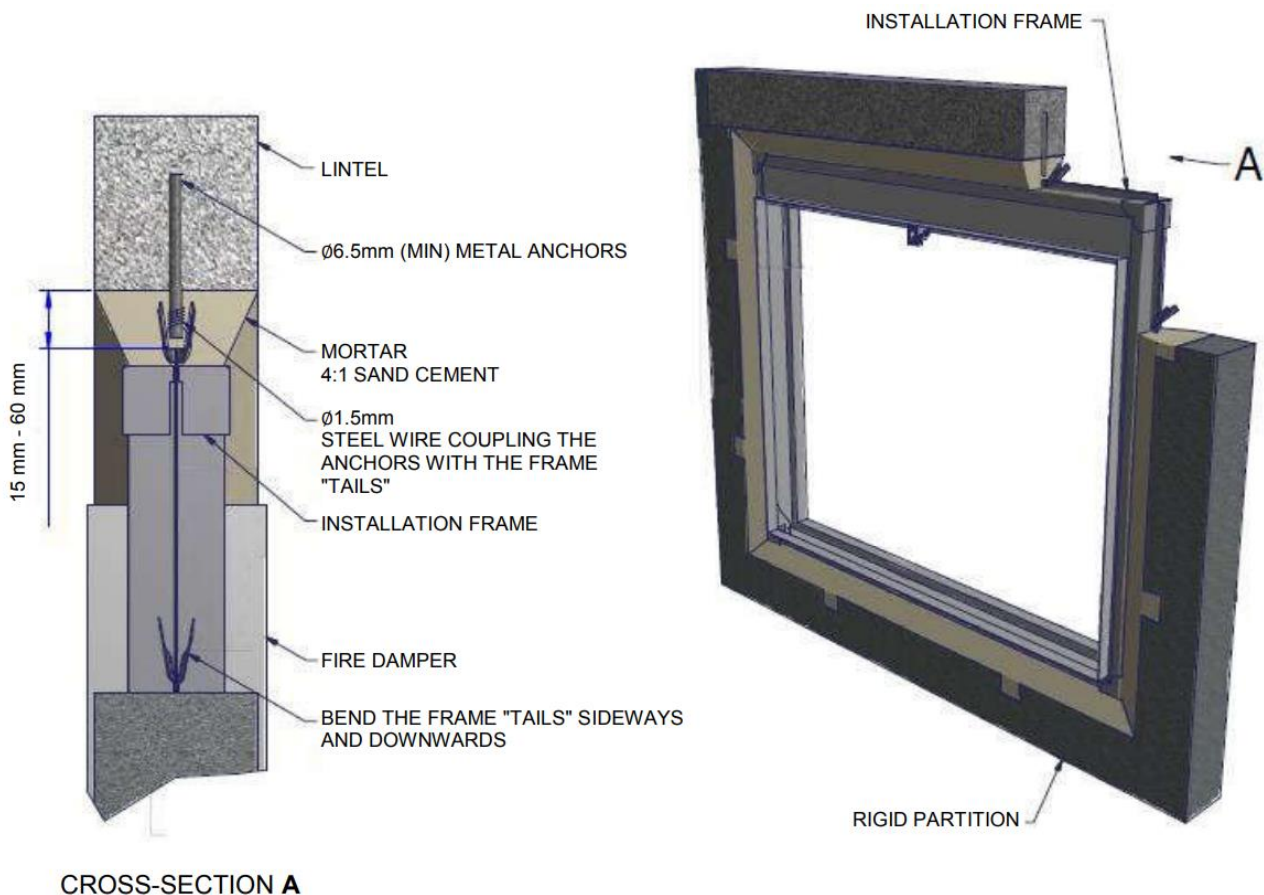

Figure 4. IF version assembly.
6.2.1 IF VERSION ASSEMBLY (fig. 4)